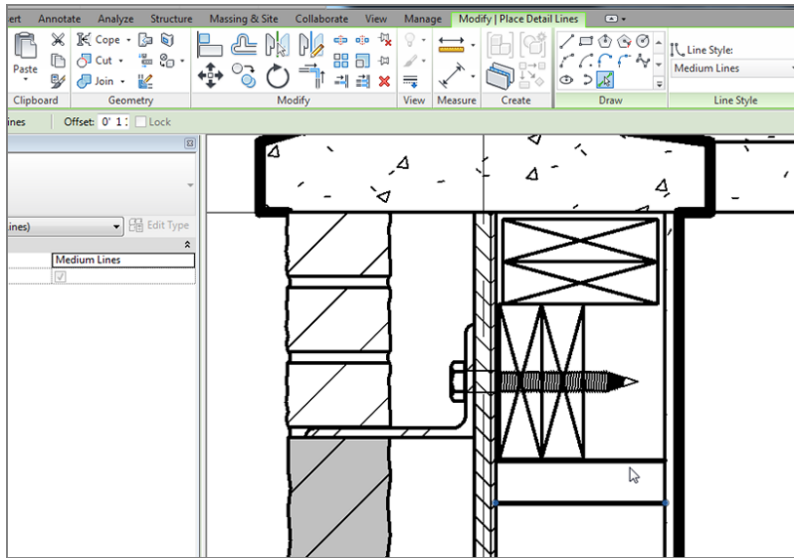

FIGURE 12.45: Offsetting the line down 1 1/2" (38mm) to create a second line
7. Change Offset to 1 1/2" (38mm), as shown in Figure 12.45.
8. Offset the line you just drew down 1 1/2" (38mm) (see Figure 12.45).